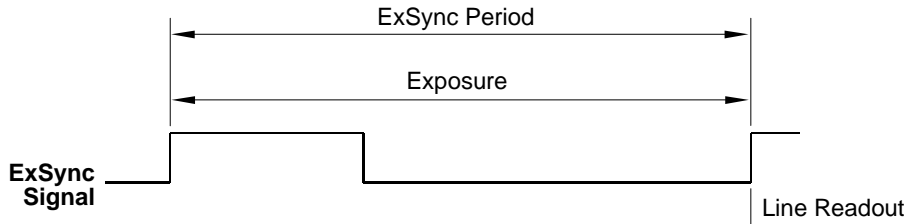

Fig. 24: ExSync Edge Controlled Mode
- In **ExSync edge controlled** mode, line acquisition begins on the rising edge of the ExSync signal. The pixels are exposed and charge is accumulated over the full period of the ExSync signal (rising edge to rising edge). The falling edge of the ExSync signal is irrelevant. The pixel values read out of the sensor on the rising edge of ExSync (see Figure 24).